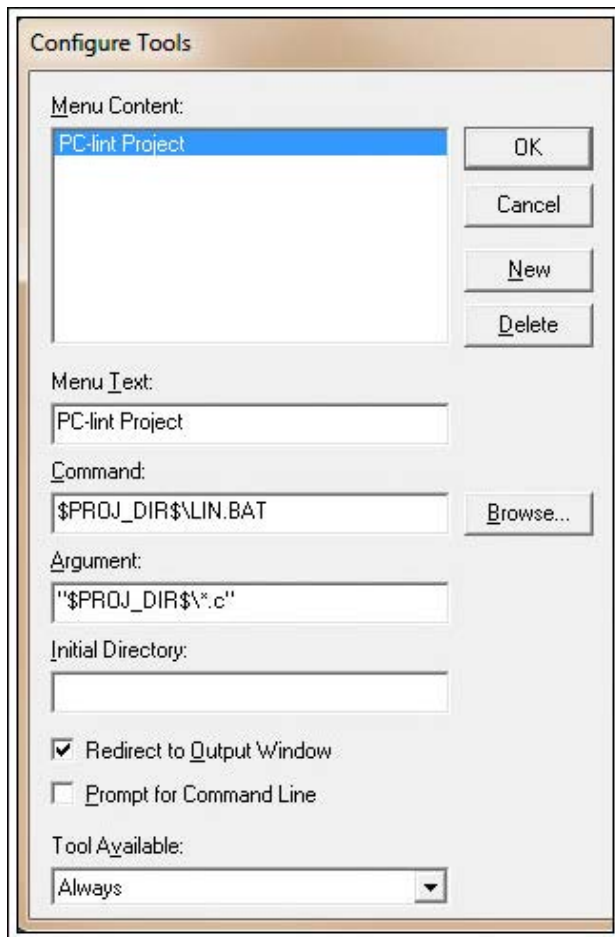

Figure 4. IAR Configure Tools menu.
6. Open your IAR project. From the task bar select Tools > Configure Tools > New. Fill in these parameters and check the box for Redirect to Output Window. **Figure 4** shows how the end result should look. Once completed, select OK.